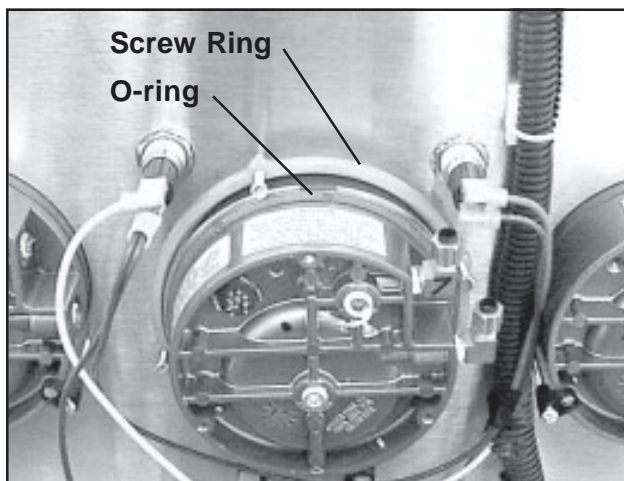

Figure 74. Screw Ring & O-ring
7. Move the screw ring toward the panel enough to expose the O-ring (Figure 74).
3. Slip the screw ring (Figure 74) over the gauge body with the screw heads facing out.